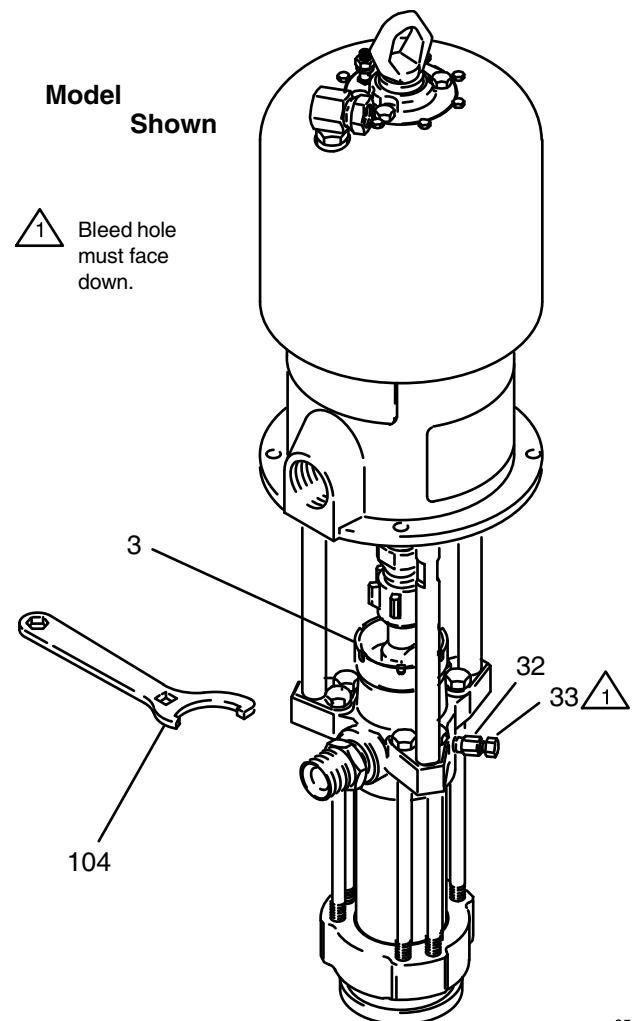

Fig. 6
Fill the packing nut/wet-cup (3) 1/3 full with Graco Throat Seal Liquid (TSL) or compatible solvent. See Fig. 6. Using the wrench (104) (order separately), adjust the packing nut weekly so it is just snug; do not overtighten. Follow the **Pressure Relief Procedure Warning** above before adjusting the packing nut.
4. If the pump fails to prime properly, open the bleeder valve plug (33) slightly. Use the bleed hole on the underside of the valve body (32) as a priming valve until the fluid appears at the hole. See Fig. 6. Close the plug (33).
8. If the pump fails to prime properly, open the bleeder valve plug (33) slightly. Use the bleed hole, on the underside of the body (32), as a priming valve until the fluid appears at the hole. See Fig. 6. Close the plug (33).